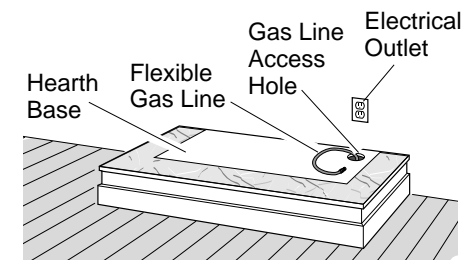

Figure 17 - Placing Hearth Base Accessory Against Wall
- Place hearth base accessory against wall at installation location. Cut an access hole in hearth top to run flexible gas line to firebox (see Figure 17, page 10). Make sure to locate access hole so cabinet mantel will cover it when installed. **Note:** You can secure base to floor using wood screws. Countersink screw heads and putty over.